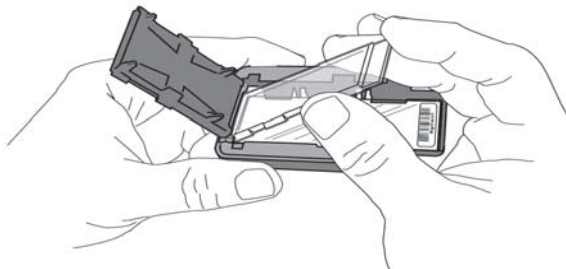

Figure 4 Inserting the ozone-barrier slide cover (shown for Scanner B and Scanner C)
- In environments in which the ozone level exceeds 5 ppb, immediately put the slides with active microarray surface (with “Agilent”-labeled barcode) facing up in a slide holder. Make sure that the slide is not caught up on any corner. Put an ozone-barrier slide cover on top of the array as shown in Figure 4. Refer to the *Agilent Ozone-Barrier Slide Cover User Guide* (p/n G2505-90550), included with the slide cover, for more information.